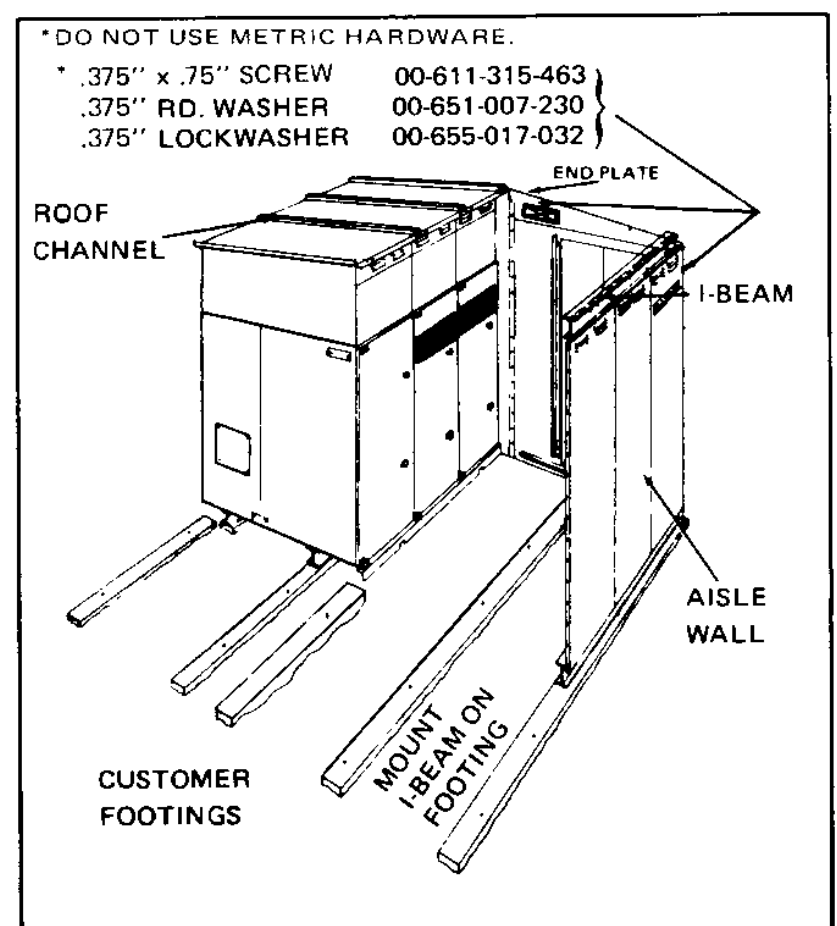

Figure 36. Initial Positioning – Single Aisle with Work Space
1. Mount aisle end plate at the end opposite the work space. (See Figure 36).